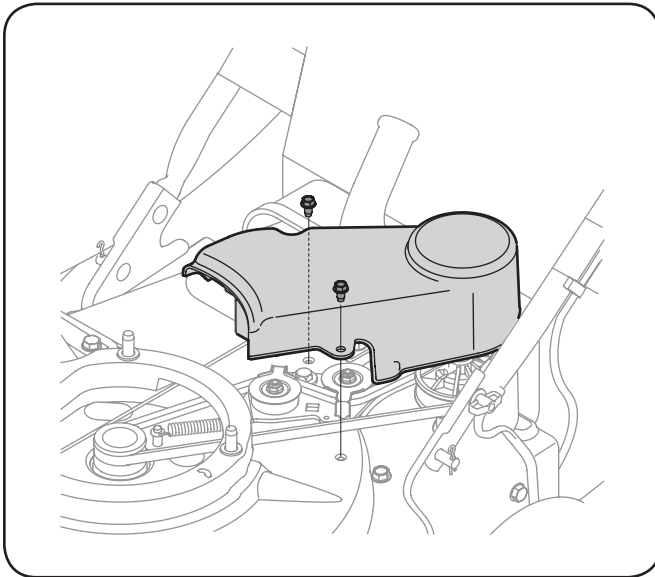

Figure 6-2
4. Remove the three self tapping screws securing the belt cover, and remove belt cover. See Fig. 6-2.